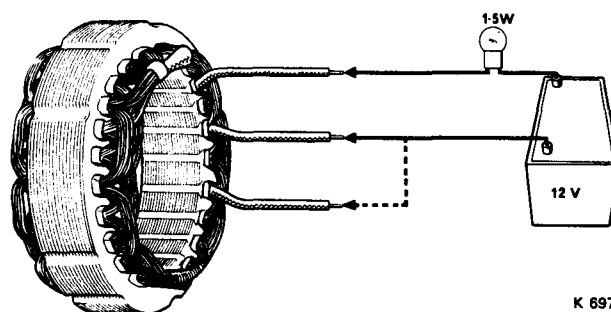

FIG. M29 STATOR WINDING CONTINUITY TEST
Connect any two of the three stator windings in series with a 12 volt battery and 1.5 watt test lamp (see Fig. M29). Replace one winding with the third winding and repeat the test. If the test lamp does not illuminate on either occasion, the stator winding is open circuit and a replacement stator must be fitted.
2. Check the continuity of the stator windings, by first connecting any two of the three stator cables in series with a 1.5 Watt test lamp and a 12 Volt battery as shown in figure M29